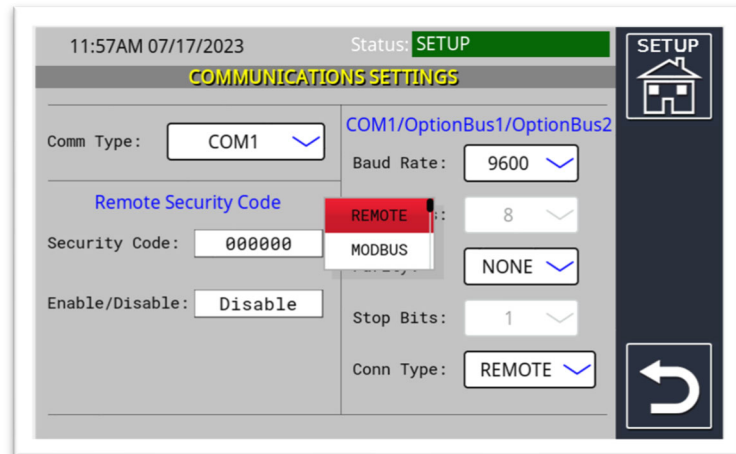

Figure 14.5
- h) **Conn Type:** For Com 1 (RS-232; communications only), the selections available from the dropdown (▼) menu are REMOTE (OMNTEC PC, Mini-Me, or industry-standard protocol) and MODBUS. (See Figure 14.5)